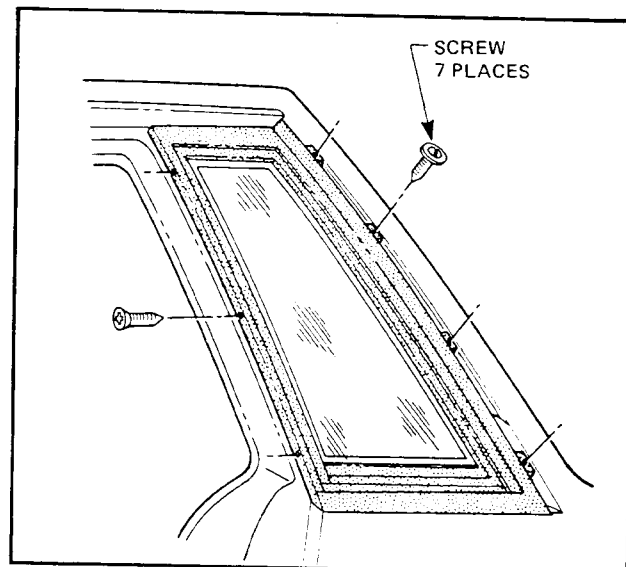

Figure 1A-25
10. Install screw attached quarter reveal moulding lower to lower section of garnish moulding (refer Section AN-AN, Fig. 1A-26).
11. Locate hooked edge of roof drip gutter rear moulding over rearward outer edge of garnish moulding, then with the hand, lightly tap opposite side of moulding over garnish moulding (refer Section AM-AM, Fig. 1A-26).